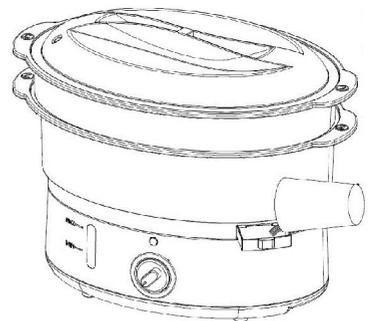

Fig. 7
9. Should it be necessary to top up the water whilst the steamer is in operation, pull open the refill point and add water to the reservoir via the refill point in the edge of the drip tray (Fig. 7). The water level can be seen through the water gauge.